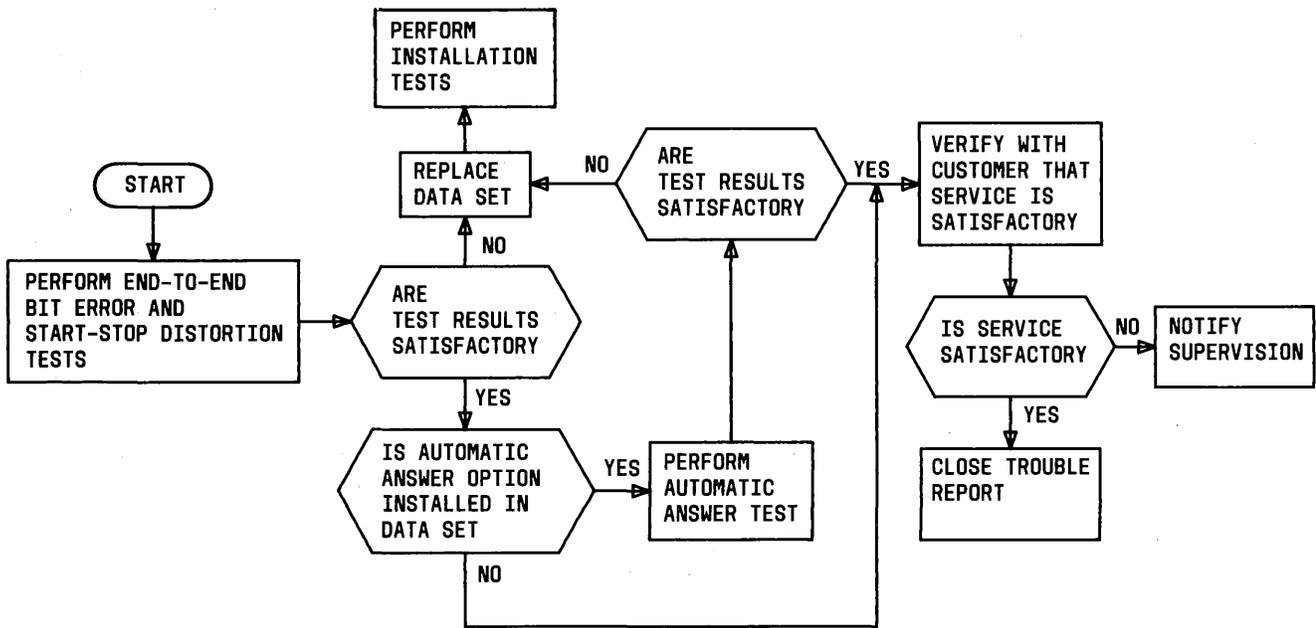

Fig. 4—Maintenance Test Sequence
**3.04** Refer to Fig. 4 for the sequence in which tests are to be performed by the telco employee at the data station. If the data set is replaced, the defective data set should be tagged with a description of the trouble, carefully packed,